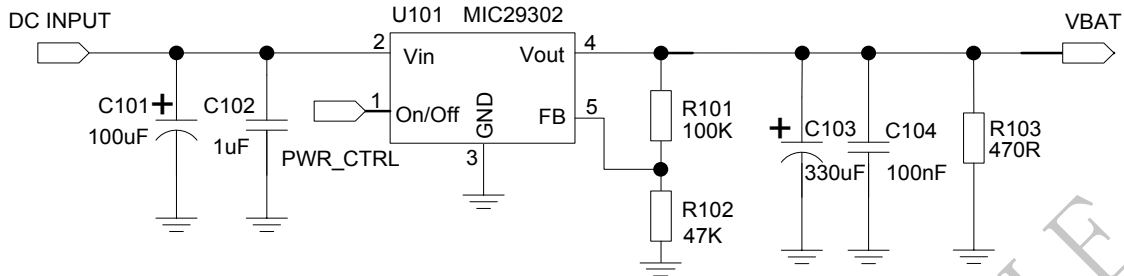

Figure 5: LDO power supply reference circuit
For non-battery applications, if the DC input voltage is +5V and users do not care about the power efficiency, a high-current low-dropout regulator is recommended. The reference design is shown in Figure 5
**Note:** To ensure a proper behavior of the regulator under light load, an extra minimum load (R103 in Figure 5) is required, because the current SIM5800 consumed is very small in sleep mode and power off mode. For more details about minimum load, please refer to specification of MIC29302.